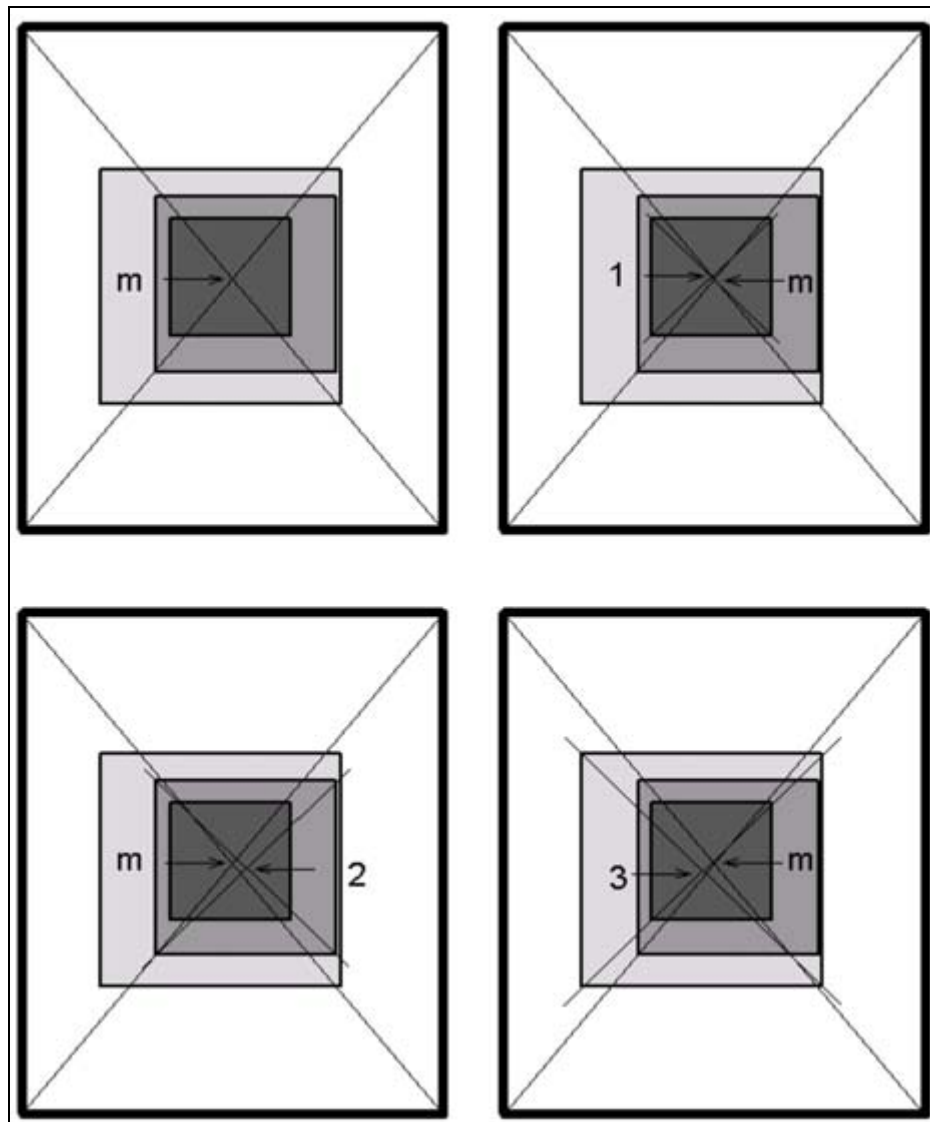

Fig. 11: Cassette central ray
- Draw the diagonals in each case on the film (Fig. 11 / p. 21):